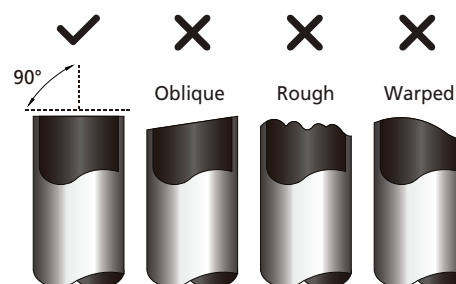

Fig. 5.1
3. Make sure that the pipe is cut at a perfect 90° angle. Refer to **Fig. 5.1** for bad cut examples.